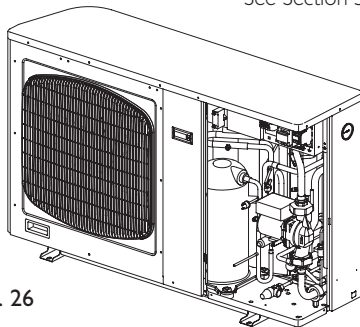

Fig. 26
2. After carrying out any maintenance ensure that all component parts are reassembled in reverse order and correctly fitted. Pay particular attention to the earth screws (B) that secure the outer panels (See Fig. 26).